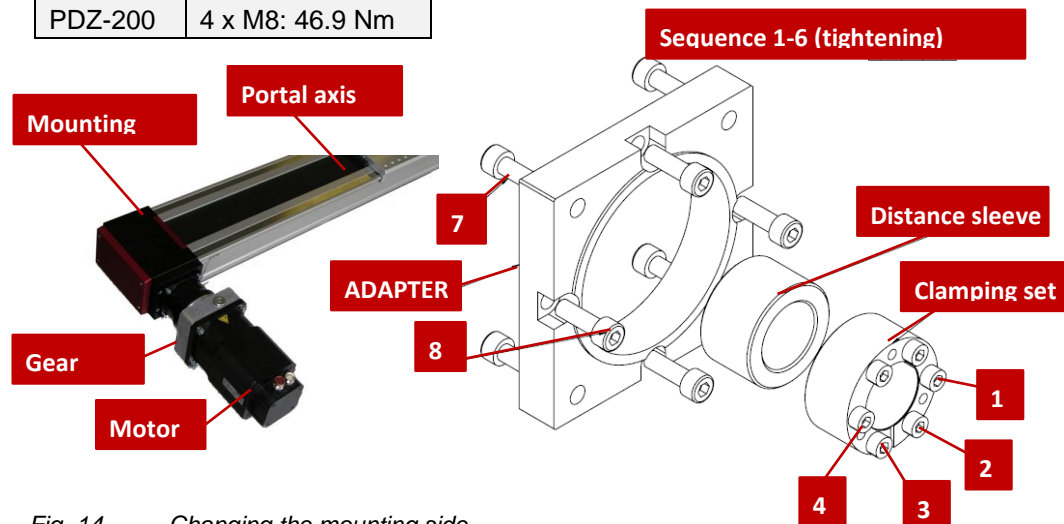

Fig. 14 Changing the mounting side
- Loosen the 4 screws (Fig. 14, 7) on the clamping set.
5. Remove the 4 screws (Fig. 14, 8).
6. Remove the gearbox adapter (Fig. 14) together with the gearbox and motor.
7. First, push the adapter sleeve (Fig. 14) and then the clamping set (Fig. 14) onto the gear shaft as far as it will go.
- Pre-tension the clamping screws in the sequence (Fig. 14, 1-6).